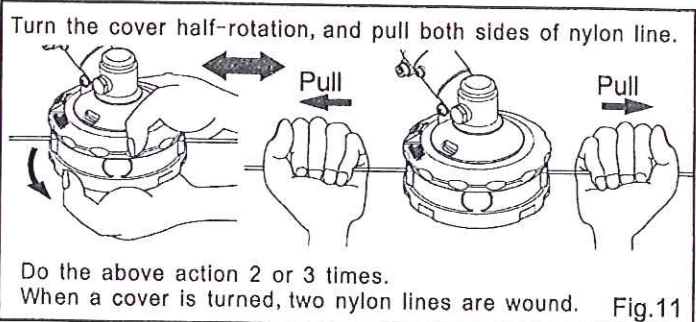

Fig. 11
3. Turn the cover a half-rotation and pull both sides of line to lock it in place. Repeat 2-3 times. (Fig. 11)